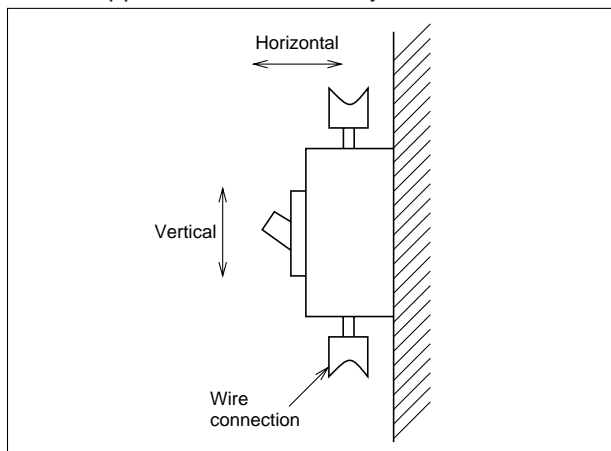

Fig. 8.1 Applied Vibration
- Every vertical and horizontal at vertical installed (as shown in Fig. 8.1)